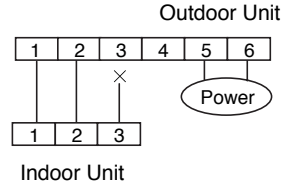

Fig. 6
2. Disconnect the cable from the terminal 3 on the Outdoor unit terminal strip. (Fig. 6)